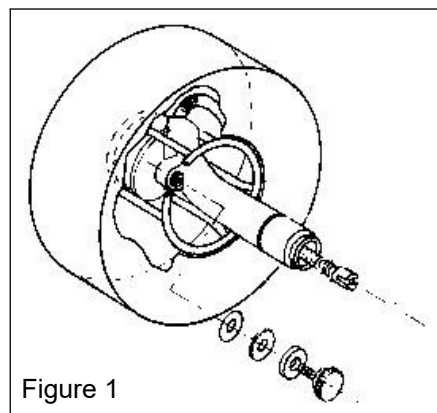
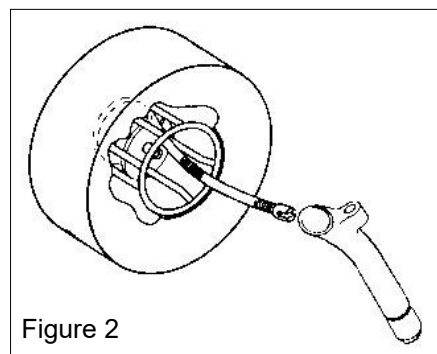
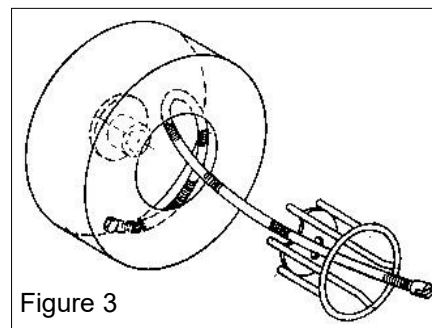

Figure 1
Figure 2
Figure 3
2. Set drum down so that distributor tube is pointing up. Unscrew knob at the back of distributor tube. (See Figure 1.) This unlocks the distributor tube from the drum shaft. Be careful not to lose the thrust bearing and race attached to the knob.
3. Slide the distributor tube off the shaft and out of the drum. (See Figure 2.)
The tension of the cable will force the tube to the side of the drum as you pull it out; so keep some pressure against the cable as you pull the tube out. After tube is out, pull out the inner drum cage. (See Figure 3.) Pull out enough cable to eliminate the tangle.
4. After the cable is straightened out, slide the inner drum cage back into place. (Figure 3.) Then slide distributor tube back so that curved section is adjacent to crescent-shaped notch in inner drum cage and back of distributor tube fits over shaft in center of drum. (Figure 2.) Keep pressing down on distributor tube as you tighten knob **with** thrust bearing and races. (Figure 1.) This holds tube into place. You can now put the drum back on the machine.